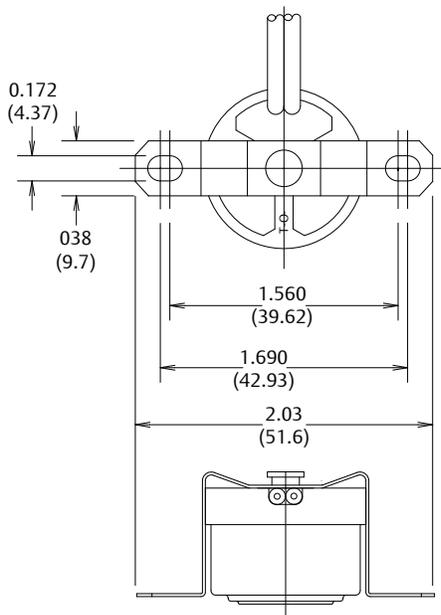

Figure 2
**Surface Mounting** – The surface mounting configuration (see figure 2) positions the sensing element firmly against the surface to be monitored.